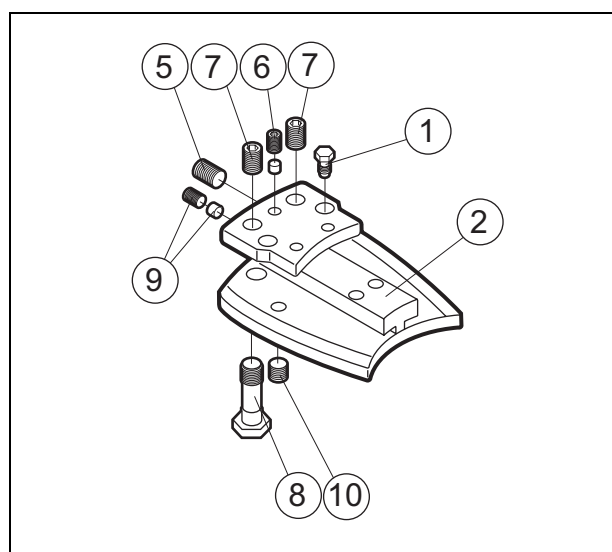

Fig. 46 Bar holder
If a saw bar is destroyed, it is possible that the guide screws (8) are damaged. *See Fig. 46.* For example, may only the threaded end remain in the bar holder (2).